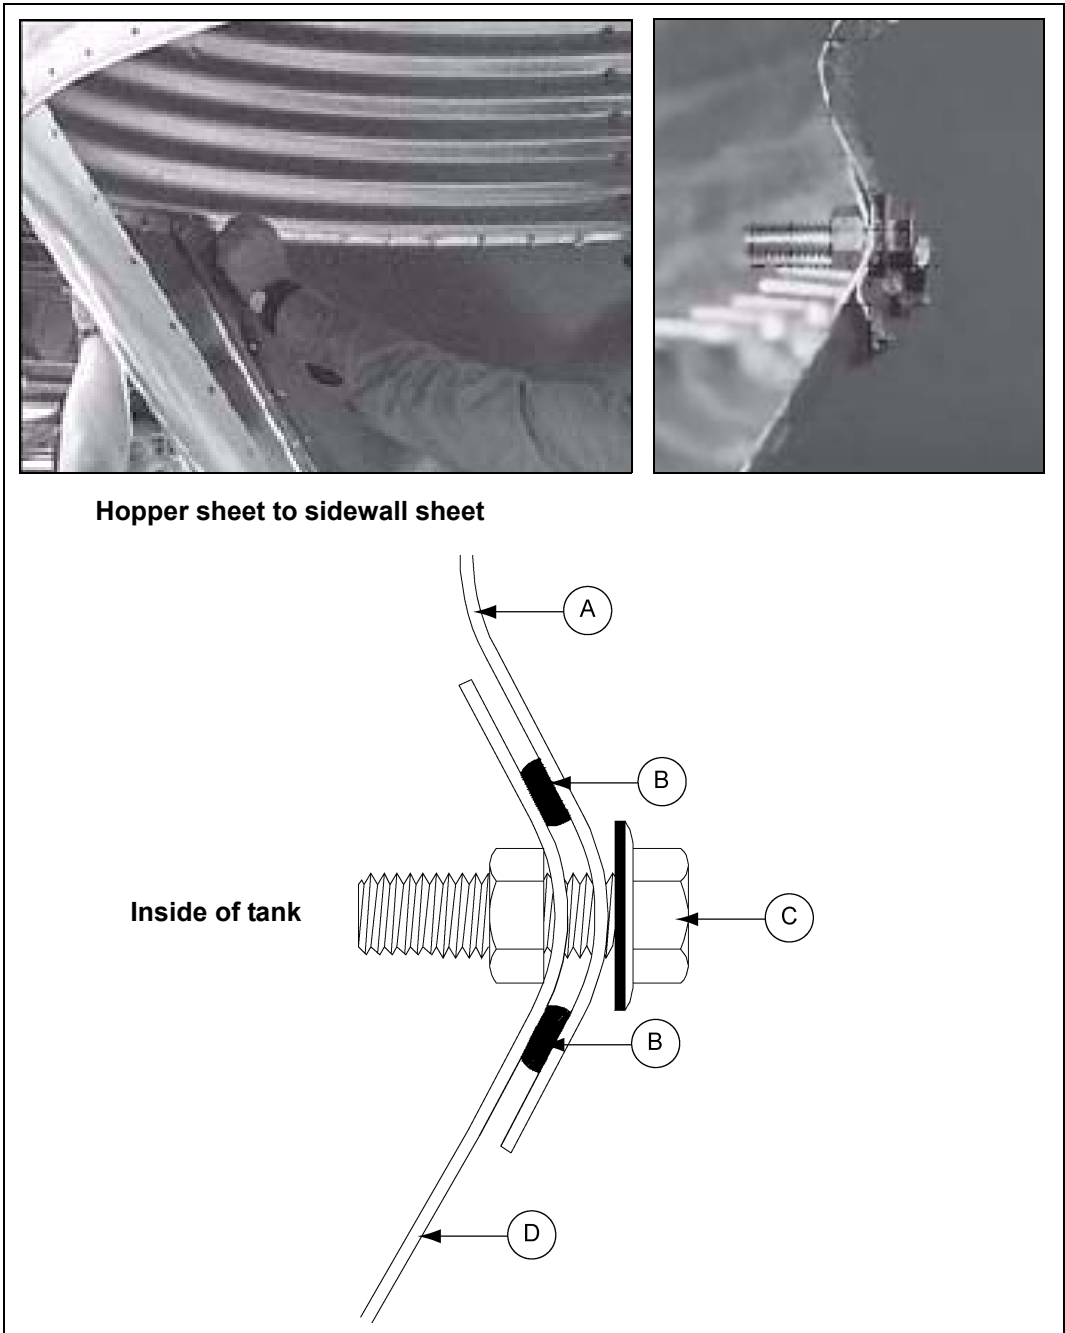

Figure 11B
When starting to attach hopper sheets to sidewall it is recommend that the first hopper sheet seam be positioned halfway between leg positions. Lap the hopper sheets as shown in Figure 11B on Page 56. Apply two (2) strips of caulking on all seams at sidewall to hopper and hopper sheet to hopper sheet. Be sure to place the head of the truss bolt on the **inside** of hopper. Leave one hopper sheet out to allow room to install hopper collar. Be sure to use two (2) strips of caulking between hopper collar and hopper sheets, then put last hopper sheet in place.